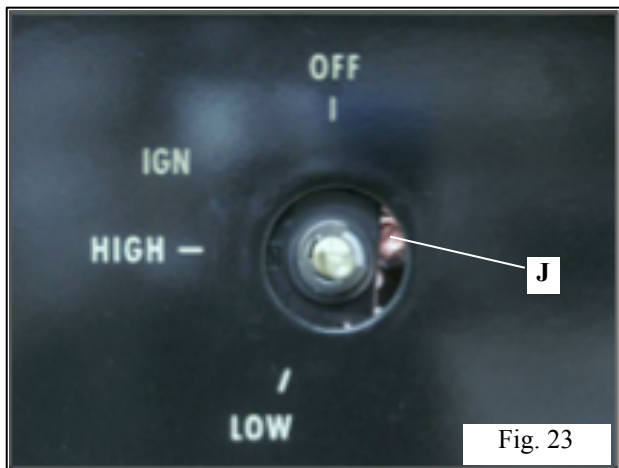

Fig. 23
- Remove the control knob. Light the burner, adjust to minimum setting, then use a small screwdriver to set the adjusting screw **J** (Figure 23).